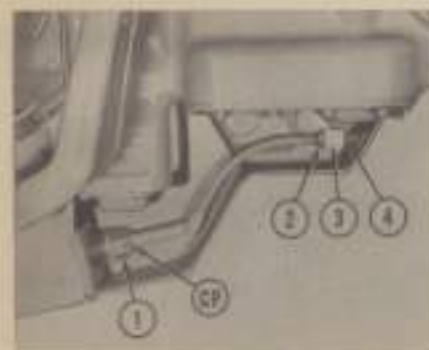

Fig. 161—View of "Traction-Booster" control linkage and adjustment points. See text.
**245. "TRACTION-BOOSTER" LEVER LINKAGE.** Place both the "lift-lower" lever and the "Traction-Booster" lever at bottom of quadrant. When the "Traction-Booster" lever is moved up the quadrant, linkage contact with the pump control valve should be felt within the last  $\frac{1}{8}$ -inch movement from the extreme top detent position of the lever. If the contact point is not felt within  $\frac{1}{8}$ -inch from top of quadrant, refer to Fig. 161 and adjust linkage as follows: Loosen adjusting jam nuts (2 & 4) at front and rear of adjusting block (3) and reposition adjusting block on link rod with jam nuts until the control valve contact point is felt at the described lever position. Moving adjusting block forward on link rod will
**246. DRAWBAR SPRING ADJUSTMENT.** Place the "Traction-Booster" lever at top of quadrant. Loosen rear jam nut (2—Fig. 161) at adjusting block (3) and back off nut  $\frac{1}{4}$ -inch from adjusting block. If drawbar is installed, loosen drawbar clamp. Remove cotter pin (CP) from spring adjusting nut (1) and loosen nut until spring is free. Re-tighten nut until spring free play is taken up; then, tighten nut  $\frac{1}{4}$ -turn further. Turn nut to nearest castellation and install cotter pin. Readjust jam nut on link rod as outlined in paragraph 245.